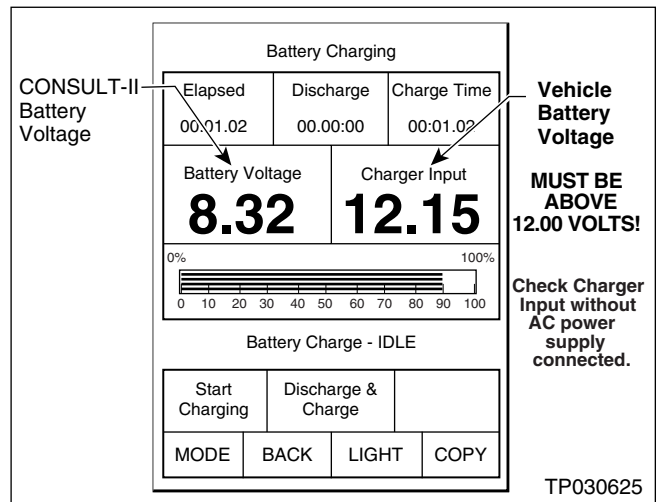

Figure 6
3. Check the CONSULT-II “Charger Input” reading (see Figure 6).